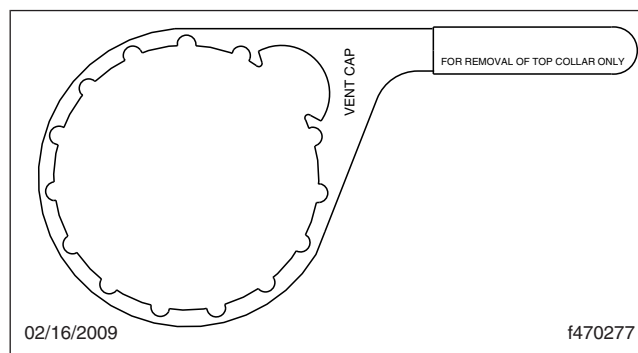

Fig. 3, DAVCO Collar Wrench
5. Using a DAVCO Collar Wrench, shown in Fig. 3, remove the clear cover and collar.